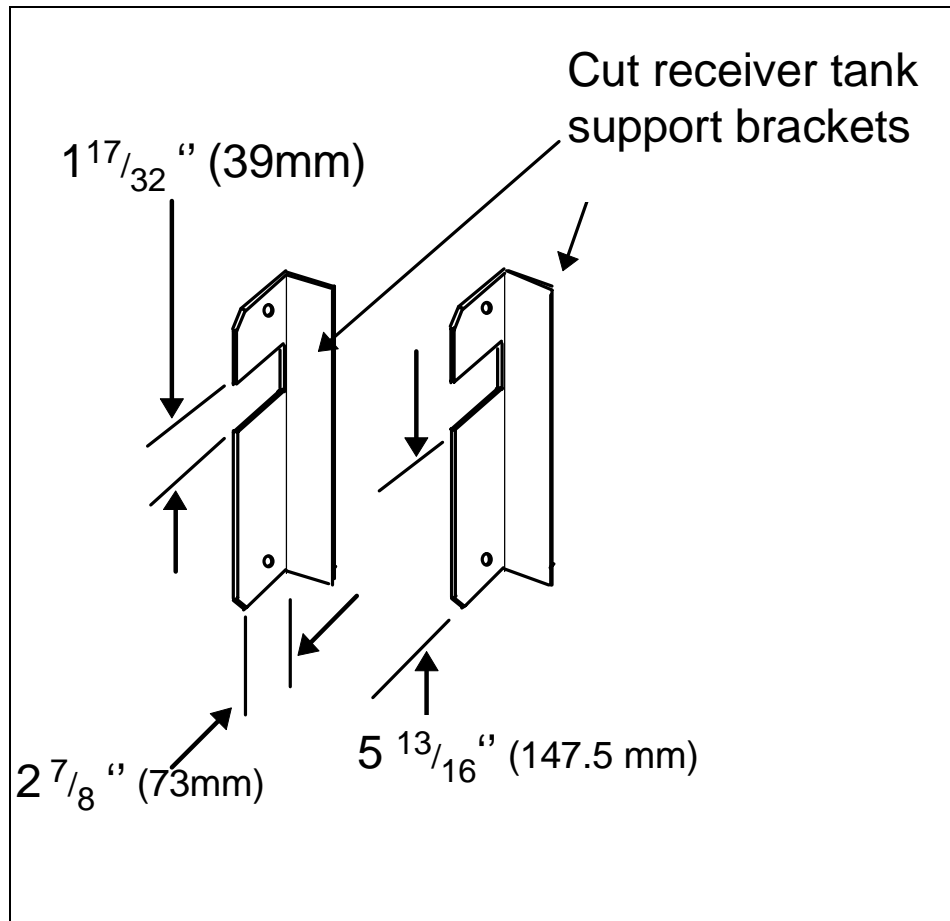

FIGURE 6: SUPPORT BRACKETS
1. Cut the support brackets as shown in Figure 6.